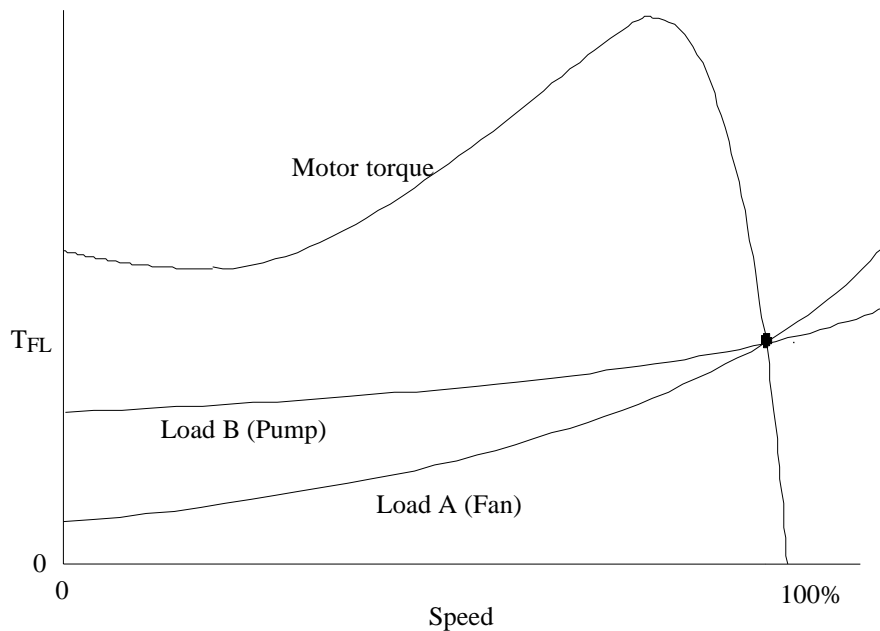

Figure 1
1. Figure 1 is a Torque - Speed curve for a particular motor which takes 140 amperes from the supply when started direct on line. The supply authority requires the starting current to be reduced to a maximum of 100 amperes. To do this the motor voltage is reduced to 0.7 of normal voltage using resistors in series with the motor at starting (primary resistance starter).
- b) On Figure 1, draw a new Torque - Speed curve for the motor at the reduced voltage. (Hint - the curve will be reduced vertically by the proportion calculated in (a))